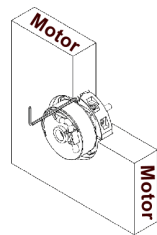

Figure 3-5
- 3) Tighten the screw clockwise to fix the expander. The required tightening torque ranges from 0.6 N·m to 0.8 N·m. Ensure that the expander is tightened properly, as shown in Figure 3-5.